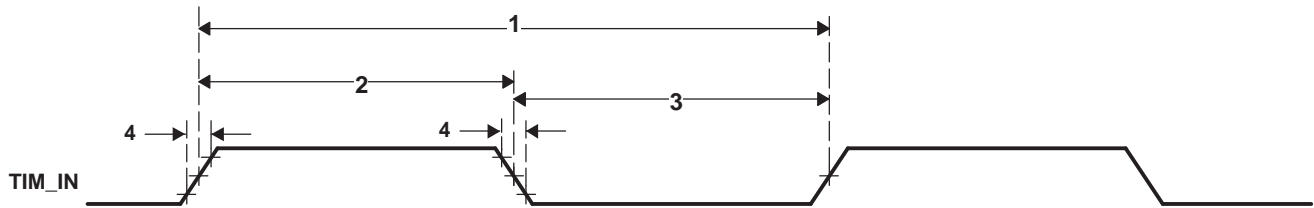

Figure 6-70. Timer Timing
Table 6-96. Timing Requirements for Timer Input^{(1) (2)} (see Figure 6-70)